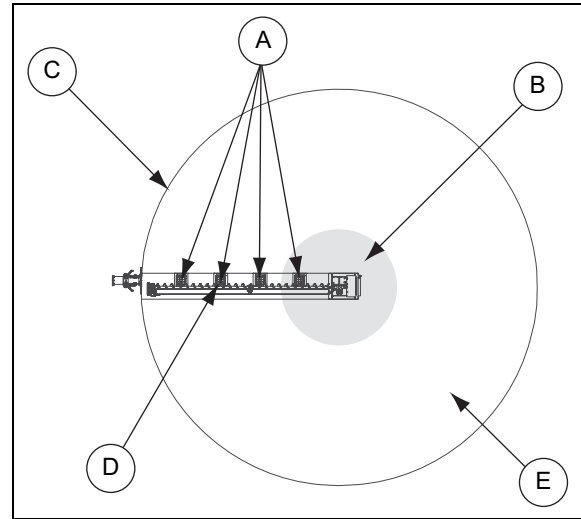

Figure 5H Top View of Bin
8. Repeat Step 2 moving the grain into a smaller circular pile, as shown in Figure 5H.